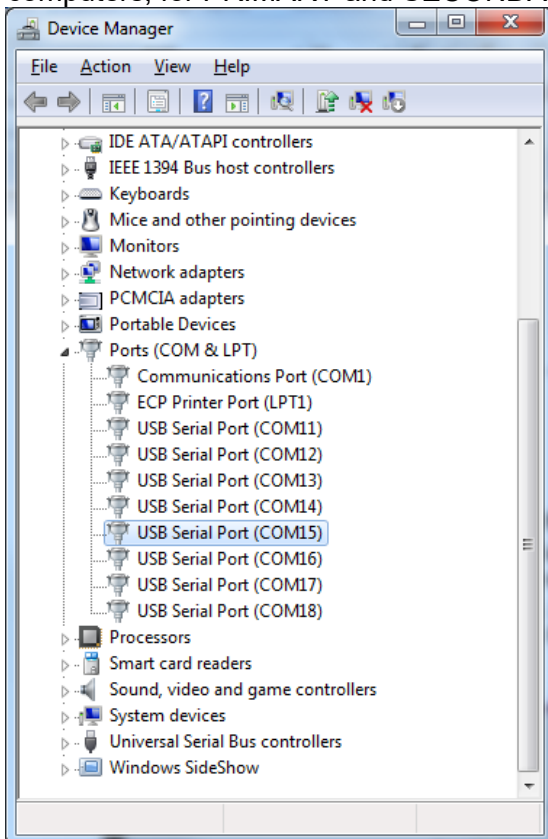

Figure 1
Connect the INT217/INT264 PRIMARY  to your computer with the provided USB cable. Power and switch ON the PRIMARY; wait until all (8) COM ports are detected. Run the Windows Device Manager to check them (Figure 1):